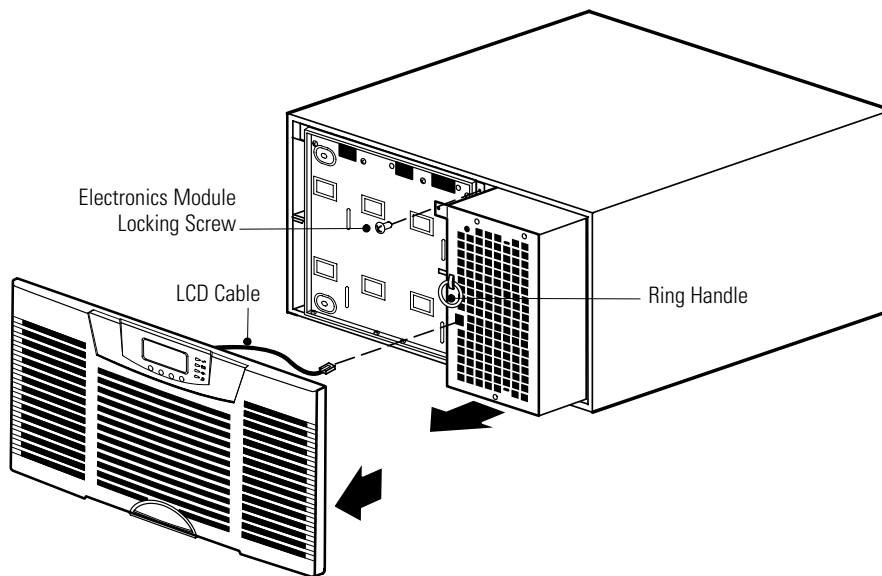

Figure 56. Removing the UPS Front Cover and Electronics Module
3. Remove the UPS front cover and the electronics module and set them aside (see Figure 56):